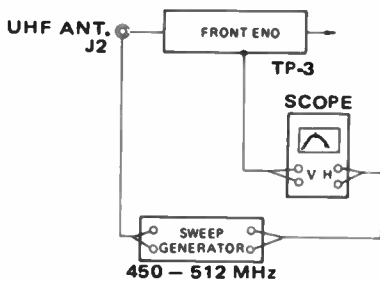

FIGURE 8. UHF FRONT END EQPT. HOOK UP
- Step 1: Connect the instruments as shown in Figure 8.